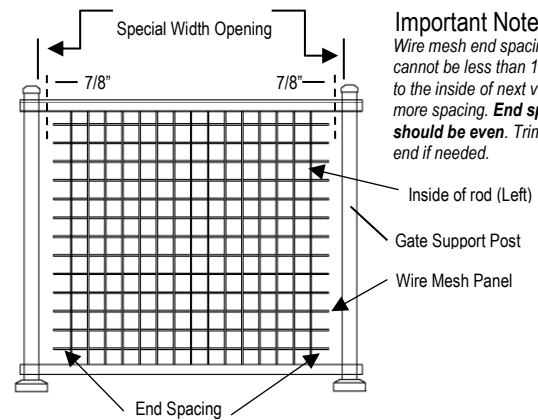

Fig 4
3. Measure the distance between gate support post and subtract 1 3/4". (Fig 4). **NOTE:** Make sure there will be 1/4" or more of spacing from mesh panel to gate sides.